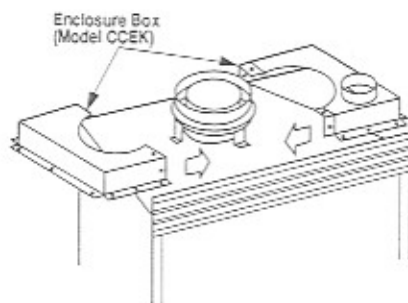

Figure 21
Step 6. Attach the chimney collar enclosure kit, Model CCEK, around chimney collar with the screws provided (Figure 21).